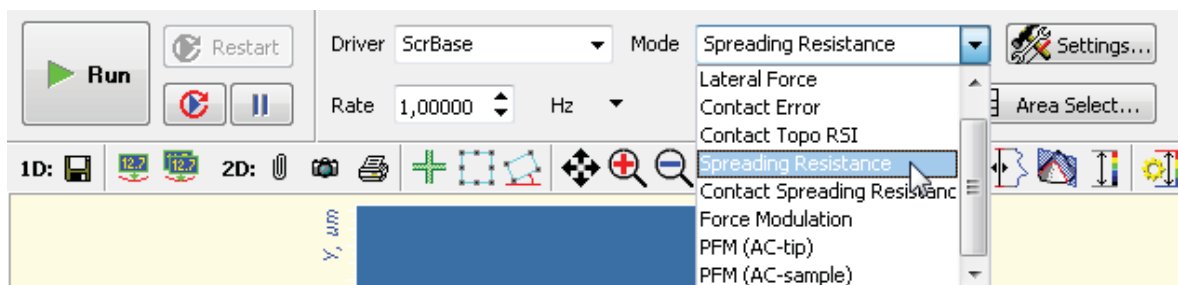

Fig. 7-31. Selecting the Spreading Resistance Imaging Mode
2. Select the **Spreading Resistance** mode in the **Mode** list on the Control panel of the scanning window (see Fig. 7-31). The **Height** and **lprAFM** signals will be selected for detection.